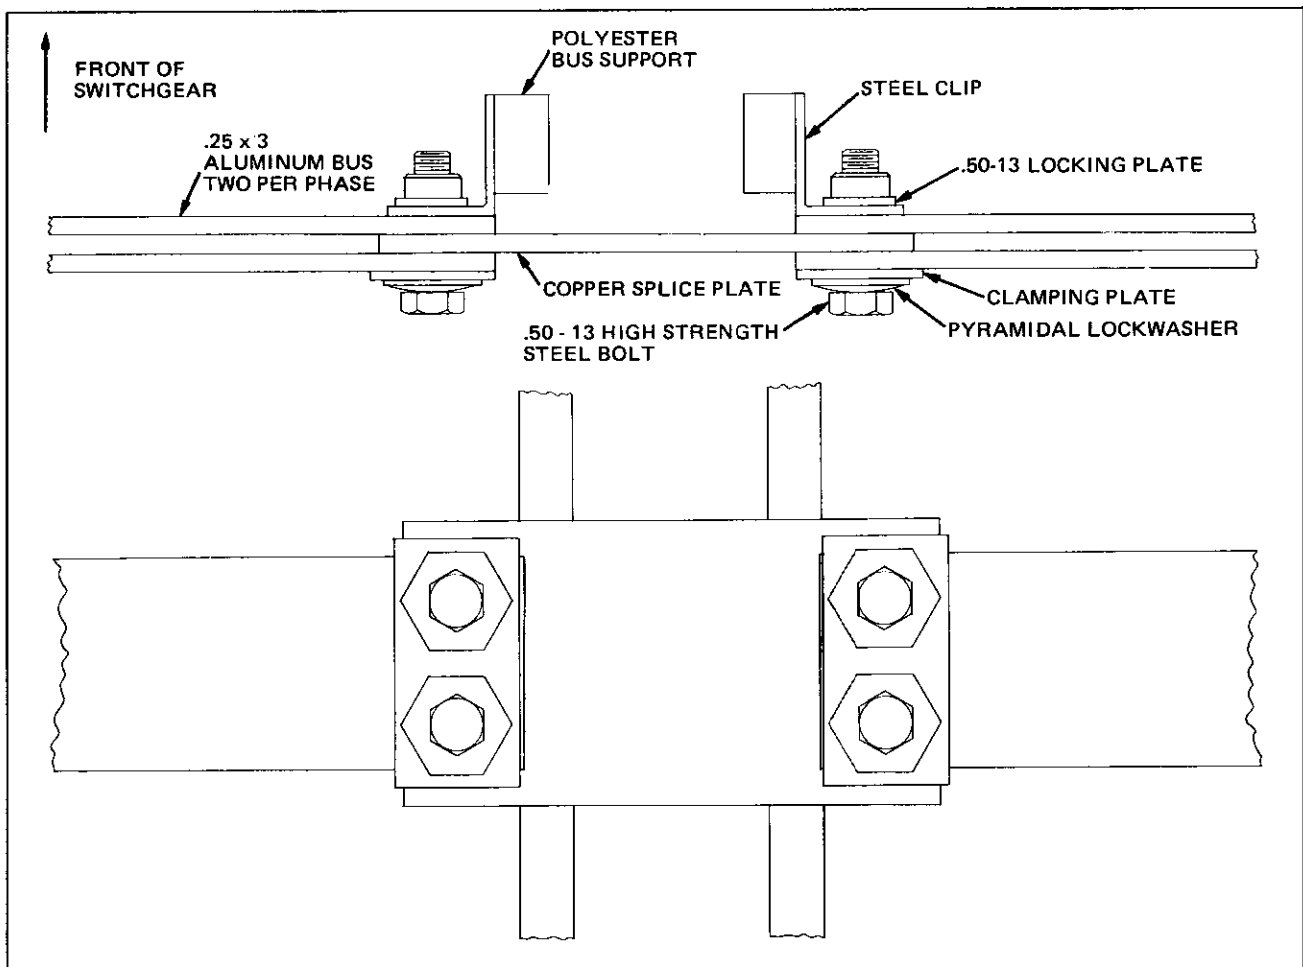

Fig. 37 Field Assembly of Joints in 1600/2000 Amp Aluminum Bus
1. 1600/2000 Amp Aluminum Bus - Fig. 37.